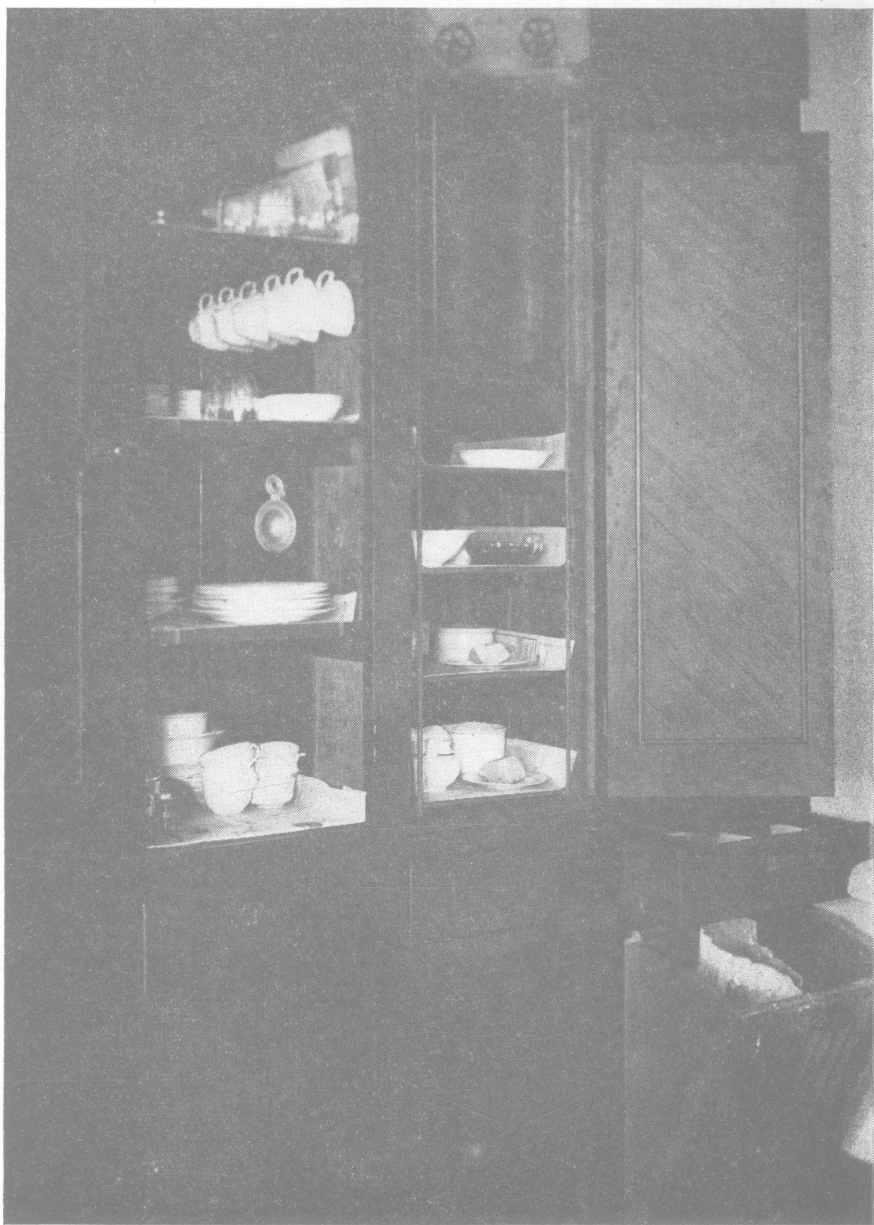

Fig. 12.—This dumb-waiter is built as a unit of the kitchen cupboard. It has been in use for 25 years.
**Dumb-waiter Unit.**—This dumb-waiter is constructed as a part of the built-in equipment. The dumb-waiter saves many steps between the kitchen and basement. In the summer time the waiter is sent down to the cellar, or even better run on down below the cellar floor into a pit or cold well where food can be kept cool. In winter time cold air can be admitted into the dumb-waiter compartment through an opening in the wall. An excellent cold closet is thus provided. (See Fig. 12 for view of the dumb-waiter.)
Where the refrigerator is not used, a dumb-waiter may be built in as described on page 12, and shown in Fig. 12.